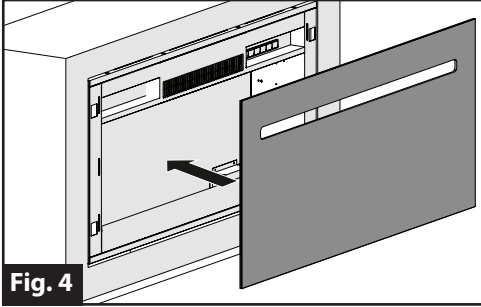

Fig. 4
- Align the six tabs on back of the glass cover with the slots on the fireplace and reattach the glass cover to the fireplace. (Fig. 4)